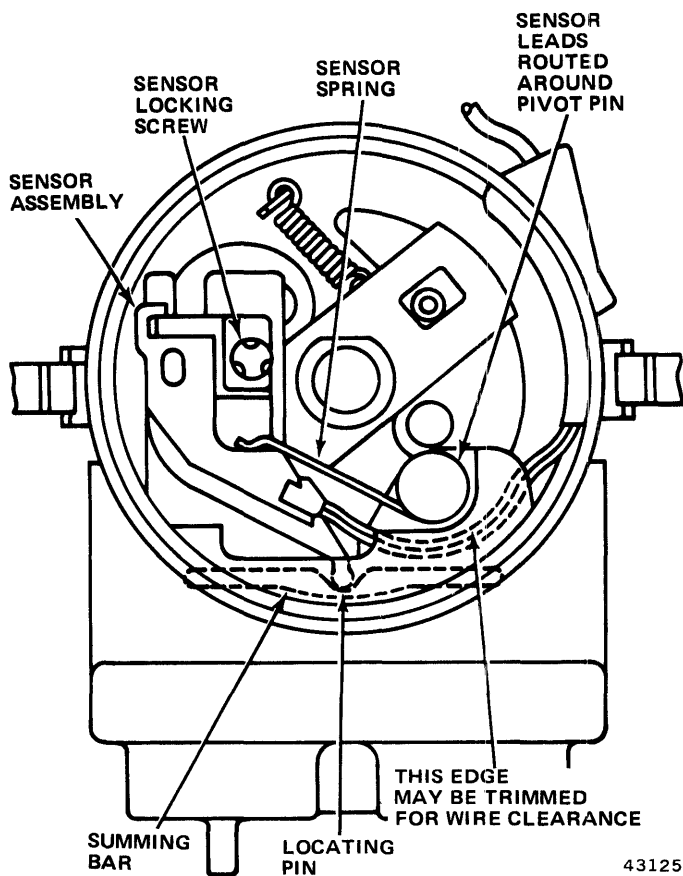

Fig. 3-57 Sensor Assembly Removal or Installation
(4) Loosen sensor locking screw about three turns. Lift sensor lead grommet out of distributor bowl. Pull sensor leads out of the slot around sensor spring pivot pin (fig. 3-57). Lift and release sensor spring, making sure it clears the leads, then slide the sensor off bracket.
(5) If vacuum advance unit is to be replaced, remove retaining screw, flat washer and sensor guide. Slide vacuum advance unit out of the distributor. Do not remove vacuum unit unless replacement is required.
(6) Clean sensor. The material used for sensor and vacuum unit requires no lubrication.
(7) Install vacuum unit. Assemble sensor, sensor guide, flat washer, and retaining screw. Install retaining screw only far enough to hold assembly together and be sure it does not project beyond bottom of sensor.
(8) If vacuum unit has been replaced and original sensor is being used, substitute replacement screw (contained in vacuum unit kit) for original special head screw to facilitate sensor positioning. Use existing flat washer.
(9) Install sensor assembly on vacuum unit bracket, making certain that locating pin of the sensor is located properly in summing bar (fig. 3-57). Place sensor spring in its proper position on sensor, then route sensor leads around spring pivot pin. Install sensor lead grommet in distributor bowl, making certain leads are positioned so they cannot be caught by trigger wheel.